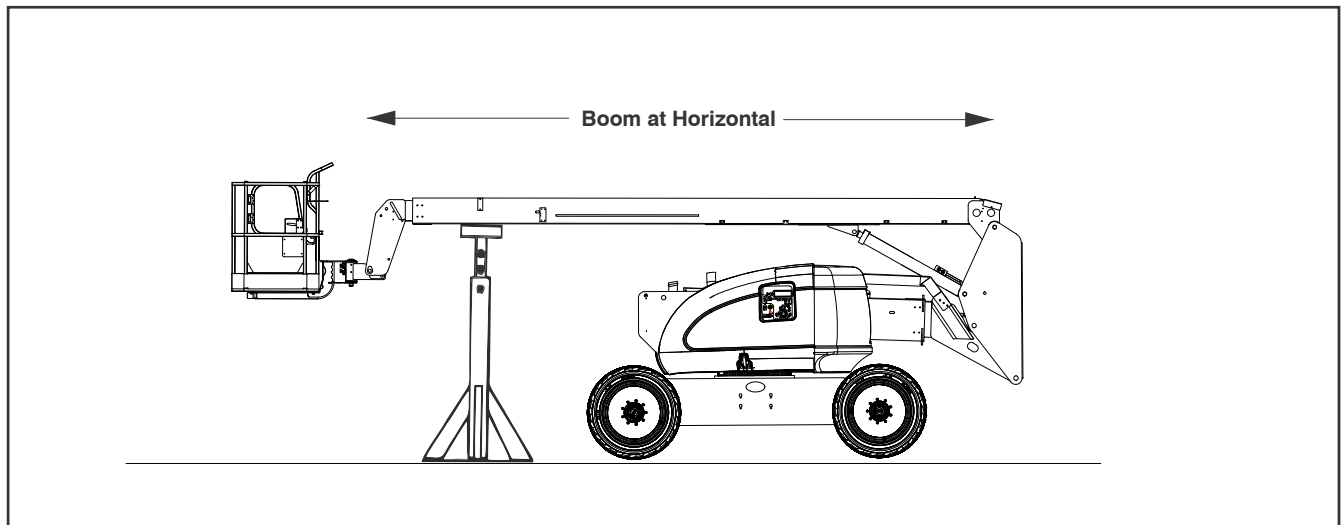

Figure 5-1. Boom Positioning and Support, Cylinder Repair
1. Place machine on flat and level surface with main boom horizontal. Extend telescope for access to cylinder rod pin (1).
2. Shut down engine. Support main boom basket end with a prop (2). See Figure 5-1., Boom Positioning and Support, Cylinder Repair.
1. Place machine on flat and level surface. Start engine and place main boom horizontal. Shut down engine and prop boom. (See Figure 5-1., Boom Positioning and Support, Cylinder Repair.
2. Remove bolt and keeper pin from cylinder rod pin (7). Drive out pin using a suitable brass drift.
4. Disconnect, cap, and tag main boom lift cylinder (8) hydraulic lines and ports.
5. Remove barrel end attach pin (9) keeper pin and bolt. Drive out barrel end attach pin from upright using a suitable brass drift.